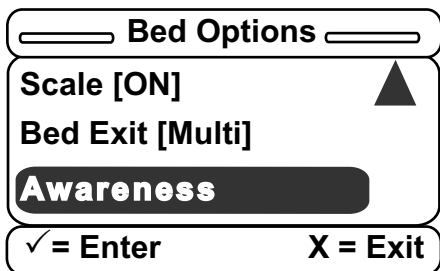

Figure 38 – Bed Options menu
14. After you set the Bed Exit option, you will return to Bed Options menu to set the Awareness option (Figure 38).